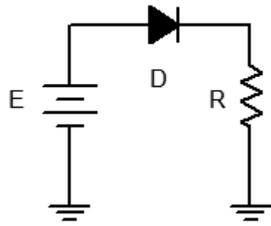
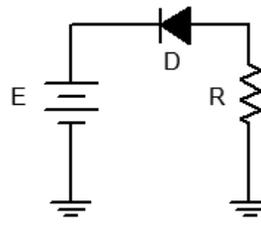

Figure 1
Figure 2
1. Consider the circuit of Figure 1 using  $R = 1 \text{ k}\Omega$ . For any positive value of  $E$ , the diode should be forward biased. Once  $E$  exceeds the knee voltage, all of  $E$  (minus approximately 0.7 volts) drops across  $R$ . Thus, as  $E$  increases, so does the diode current.
2. Build the circuit of Figure 1 using  $R = 1 \text{ k}\Omega$ . Set  $E$  to 0 volts and measure both the diode's voltage and current and record the results in Table 1. Remember, voltage is measured across a device (parallel) while current is measured through it (series). Repeat this process for the remaining source voltages listed.
4. Consider the circuit of Figure 2 using  $R = 1 \text{ k}\Omega$ . For any positive value of  $E$ , the diode should be reversed biased. In this case, the diode should always behave like an open switch and thus no current should flow. If no current flows, the voltage across  $R$  should be zero, and thus the diode voltage should be equal to the applied source voltage. Note that the diode's voltage polarity is negative with respect to that of Figure 1.
5. Build the circuit of Figure 2 using  $R = 1\text{ k}\Omega$ . Set  $E$  to 0 volts and measure both the diode's voltage and current and record the results in Table 2. Repeat this process for the remaining source voltages listed.